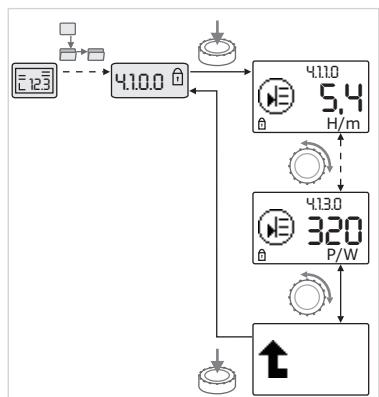

Fig. 42: Calling up information
- Turn the operating button to access the “Information” menu elements in the current sub-menu (see Fig. 42). For an explanation of the settings represented by the symbols, see the table in chapter 8.7 “Menu elements reference” on page 98.